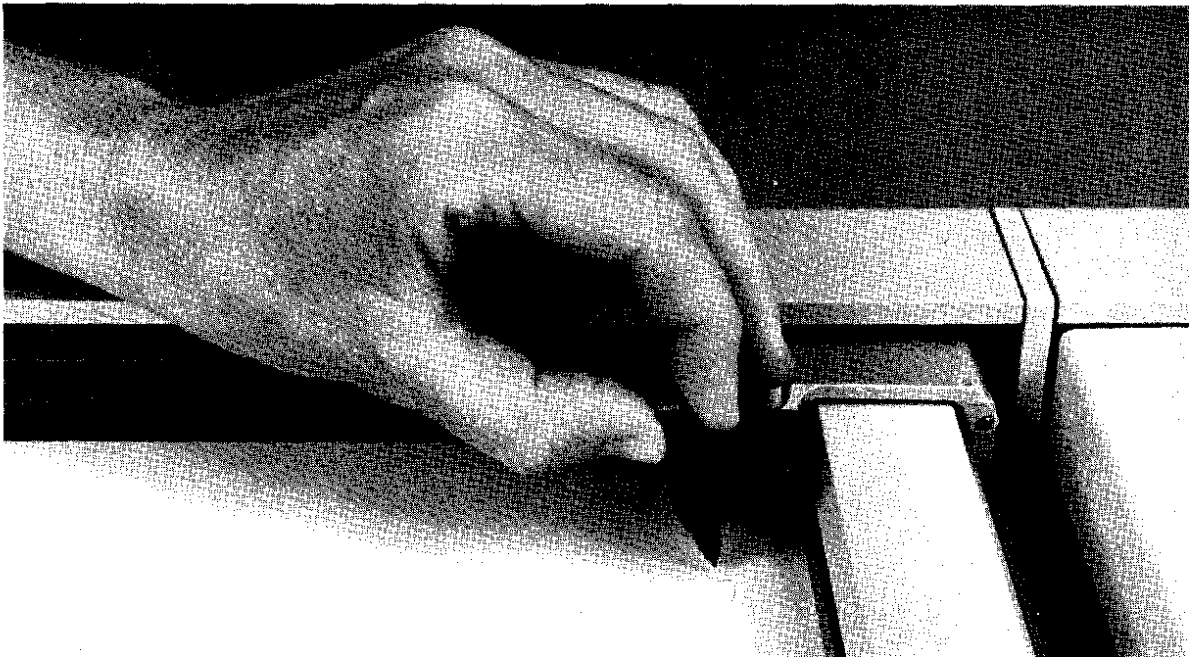

Figure 2-3. Pen Holder Loading
- b. Load the desired pen in the pen holder as shown in Figure 2-3.